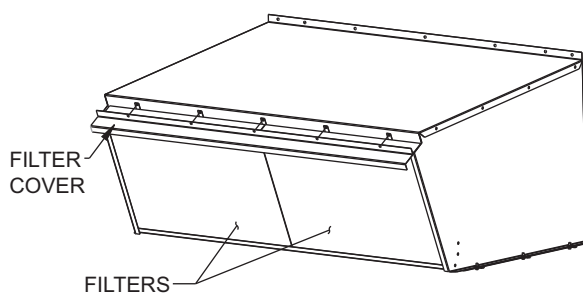

Fig. 42 — Filters and Filter Cover
14. Slide two 20 x 25-in. filters into cross members of hood assembly. Attach filter cover over filters with screws and speed clips provided. See Fig. 42.